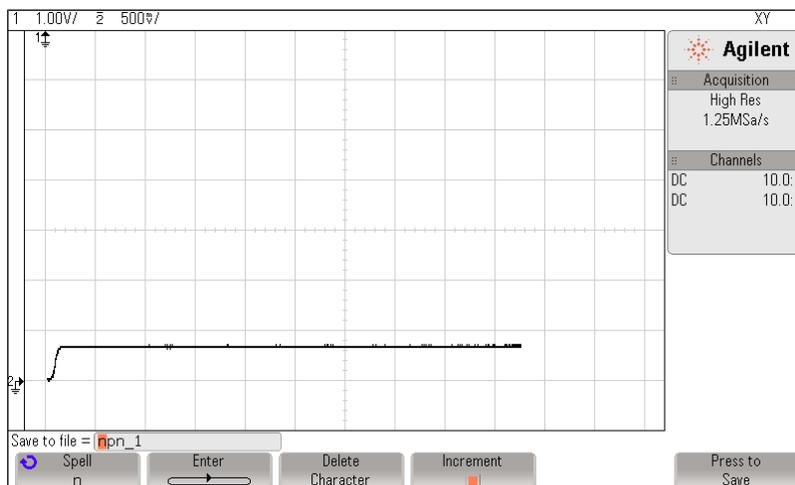

Figure 2. Curve for 20 μ A Base Current.
- Adjust the power supply voltage so that 20 μ A flows into the base of the transistor. The display on the oscilloscope should be close to what is shown in Figure 2. A 2N3904 was used to produce all the figures in this section. A 2N3903 will produce similar curves.